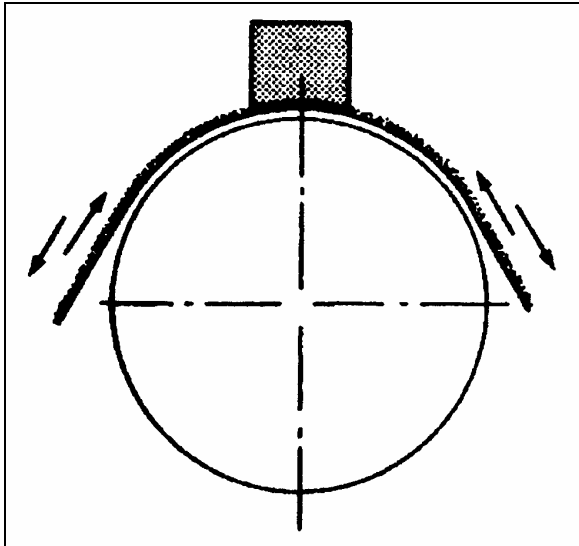
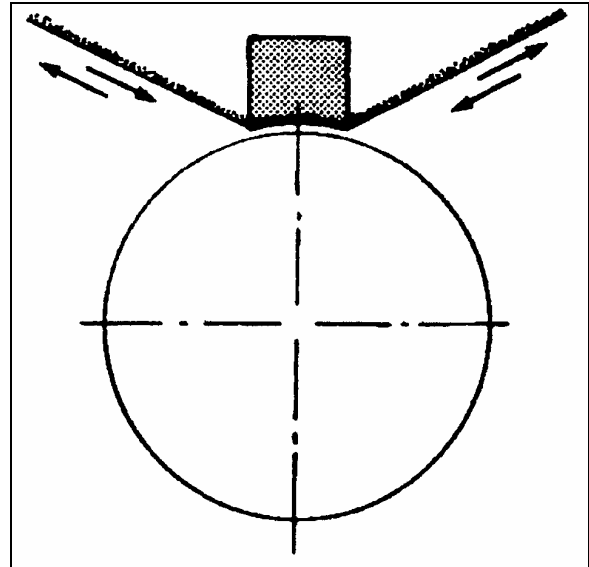

FIGURE 2
FIGURE 3
- a. Grinding with abrasive cloth medium grit (sandpaper) (grit 60) applied to a part of the commutator by hand. The new brushes installed in their brush holder and pressing against the cloth, one makes oscillate the rotor until complete grinding of the seating faces (Refer to figure 2). It is necessary to avoid raising the cloth under the brushes otherwise it would result, after grinding, to reduce and badly definite surfaces (Refer to figure 3).